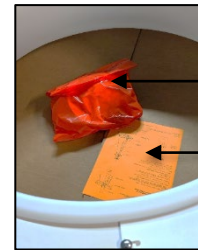

FIG. 6 - RED BAG AND
4. INSTALLATION INSTRUCTIONS (shown in FIG. 6) - Please completely read the install instructions before starting installation.
5. RED BAG (shown in FIG. 6) contains below following item